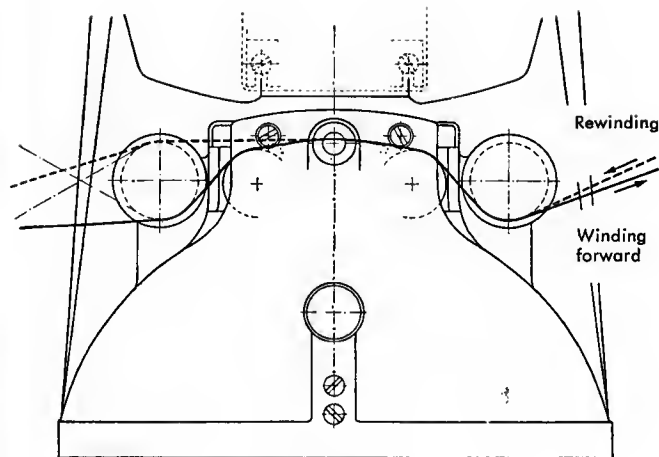

Fig. 5
- a) Rewinding through the apparatus. In doing so, the film must be taken out of the left film guide roller (5) and must be run over it to reduce wear and tear. When the film is run through the apparatus in this manner the perforation does not engage with the transport mechanism and the entire apparatus is out of gear (Fig. 5). It is also advisable to switch off the lamp.